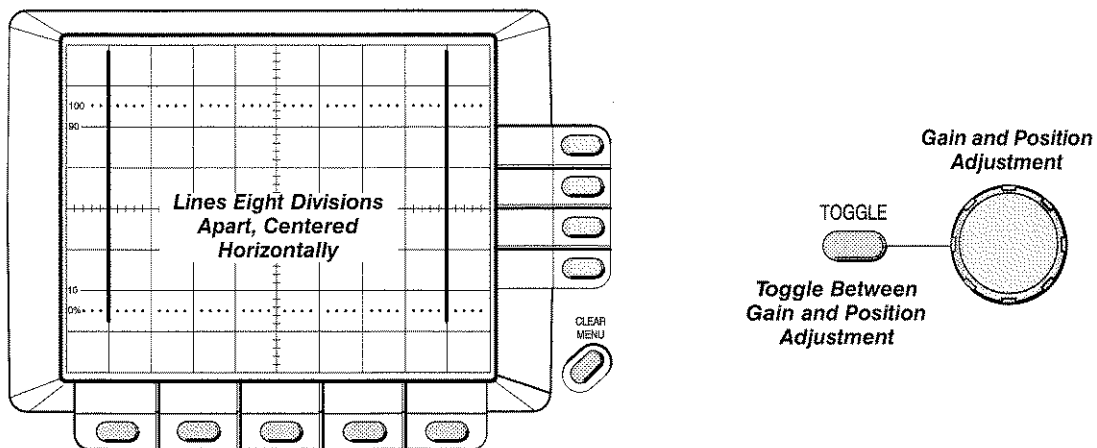

Figure 6-5: Horizontal Adjustments (Three)
12. Use a combination of the **TOGGLE** button and the General Purpose Knob to position the two lines eight divisions apart, centered horizontally (see Figure 6-5).